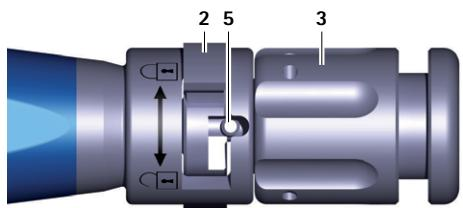

Fig. 4 Close-up view of the insertion instrument, trial implant/implant clamped
- ▶ Turn the rotary nut 3 on the insertion instrument A clockwise ("back" direction) until the trial implant is clamped, see Fig. 4.
- ▶ Turn the rotary nut 3 on the insertion instrument A clockwise (direction: "back"), until the implant is clamped, see Fig. 4.